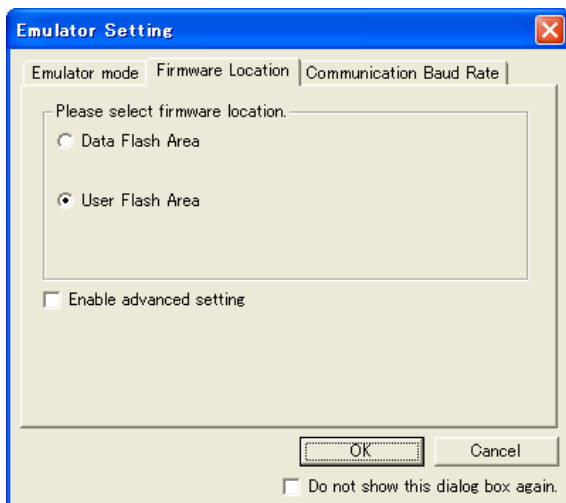
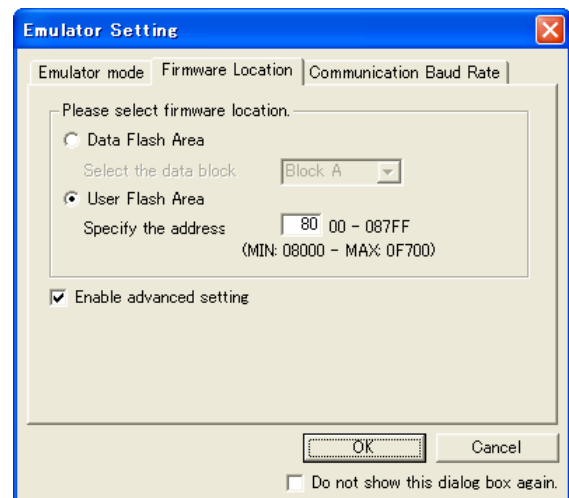

Figure 6.1 [Firmware Location] tab of [Emulator Setting] Dialog Box (1)
Figure 6.2 [Firmware Location] tab of [Emulator Setting] Dialog Box (2)
- When using the MCU types R5F21266 or R5F21276, the [Emulator Setting] dialog box shown in Figure 6.1 is displayed. Specify the area which will not be used by the user system. If the [Enable advanced setting] check box is checked, the area used by the emulator can be specified with the address (Figure 6.2).